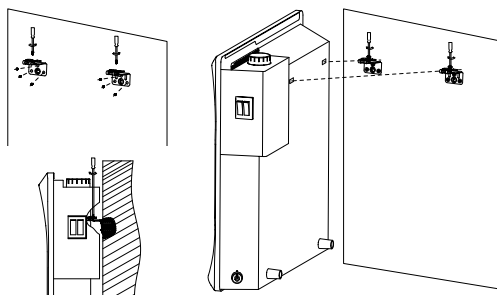

Fig. 4
3. In accordance with Fig. 3 and Fig. 4 specify a place for convector installation with observance of minimum distances from objects and minimum distance from the floor.